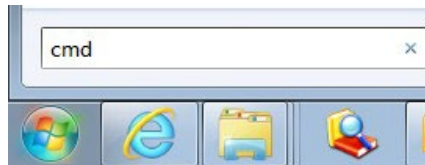

Figure 4-1 Enter "CMD"
1) Click the bottom left corner  icon,  Input box "cmd", shown in Figure 4-1.